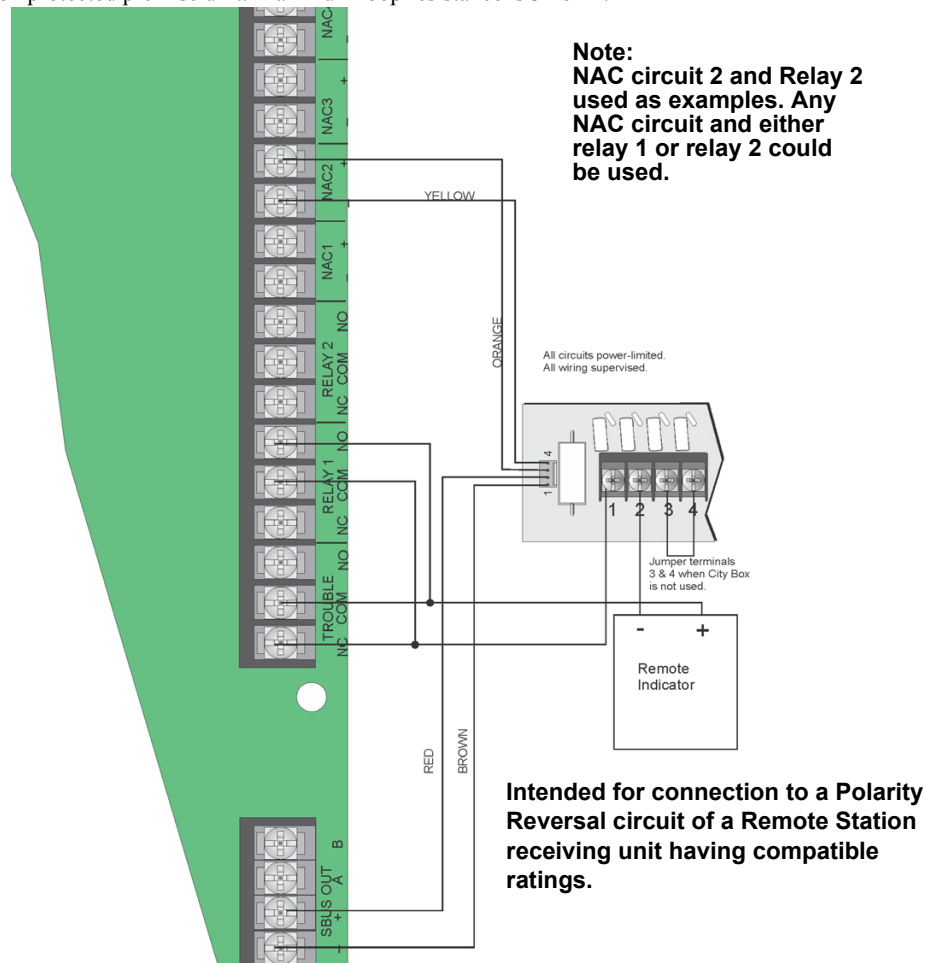

Figure 4.49 Polarity Reversal Connection Using the 5220 Module
2. Wire the 5220 to the control panel using the four-wire pigtail provided as shown in Figure 4.49. This diagram also shows how to connect the 5220 to the remote indicator. Do not install an EOL resistor in the terminals of the NAC circuit used for this application.